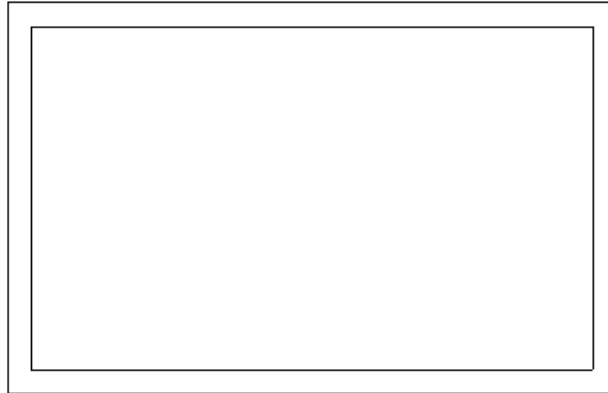

Figure 3-40 *The completed exterior wall profile*
3. Press ESC to remove the wall segment from the selection set. The external wall profile is completed for this tutorial, as shown in Figure 3-40.